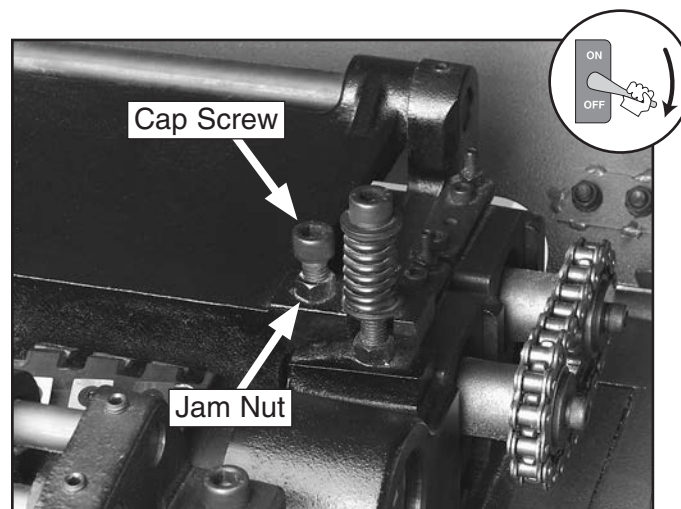
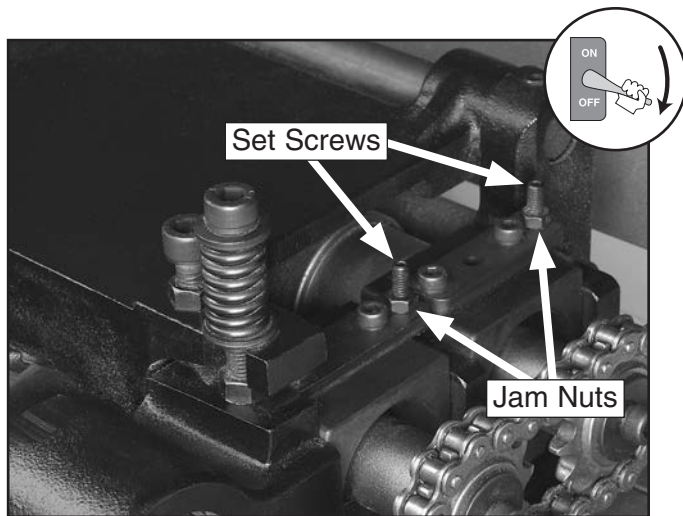

Figure 37. Pressure bar jam nut and set screw (one side shown).
Figure 38. Outfeed jam nuts and set screws (right side shown).
6. Using the same zeroed reference on the Rotacator, adjust the height of the pressure bar and outfeed rollers to their given specifications. The adjustment cap screw, jam nuts and set screws are shown in **Figures 37 & 38**.
12. Without moving the table, adjust the pressure bar (**Figure 37**) and outfeed rollers (**Figure 38**) in the same manner, using the wood blocks as the reference point.